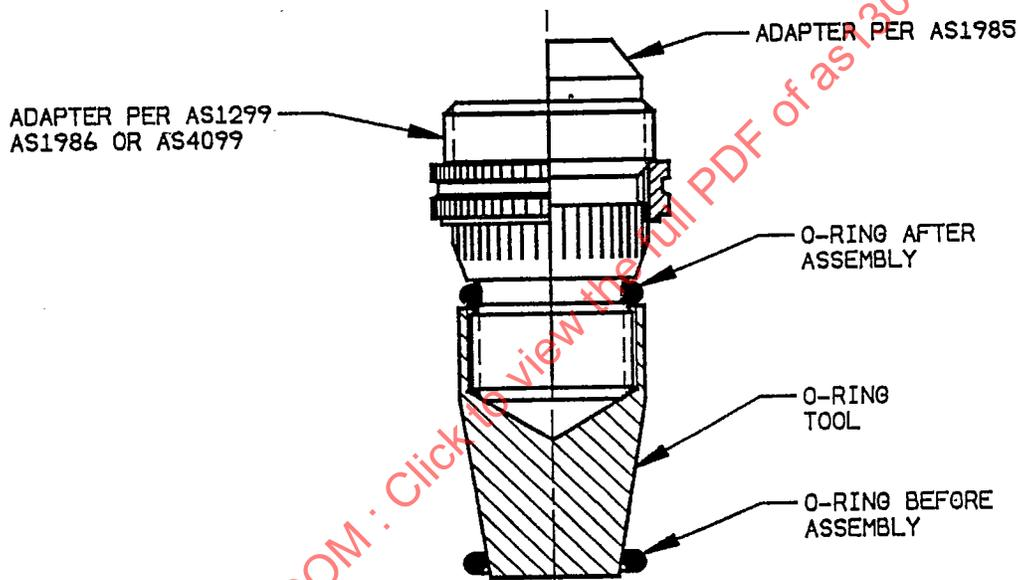

FIGURE 2
- 4.1.1 Place the O-ring tool (per Table 2) over the small thread of the adapter. Submerge the adapter, O-ring tool, and O-ring in the fluid to be used in the working system, or a lubricant compatible with the system fluid and all components. Slide the O-ring over the O-ring tool and onto the adapter. Be sure that the O-ring is not twisted and is properly seated in the groove of the adapter. See Figure 2.